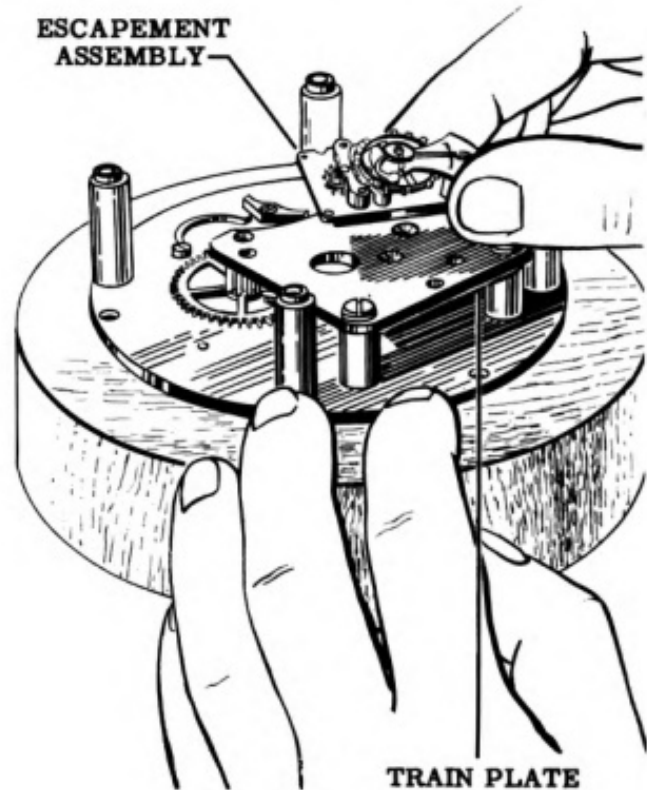

Figure 77
9. Place the escapement in position on the train plate. See Fig. 77. Carefully mesh the escape pinion with the teeth of the fourth wheel. Fasten down the escapement with the two escapement mounting screws.